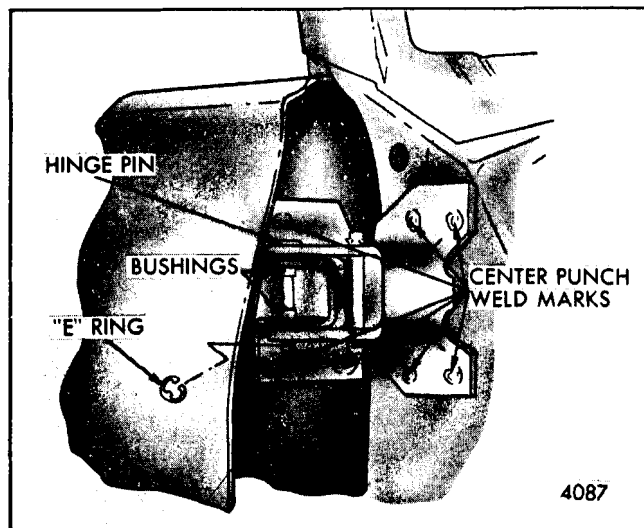

Fig. 6-49-Front Door Hinge "E" Ring Removal
will include a removable pin and "E" ring retainer so that the hinges can be separated for individual door side and/or body side strap replacement (refer to Figure 6-49).
1. Remove "E" ring (snap retainer) from lower end of both upper and lower hinge pins (Fig. 6-49).
4. Center punch visible weld marks on hinge base as shown in Figure 6-49 and drill a 1/8" pilot hole completely through welds at center punch marks.